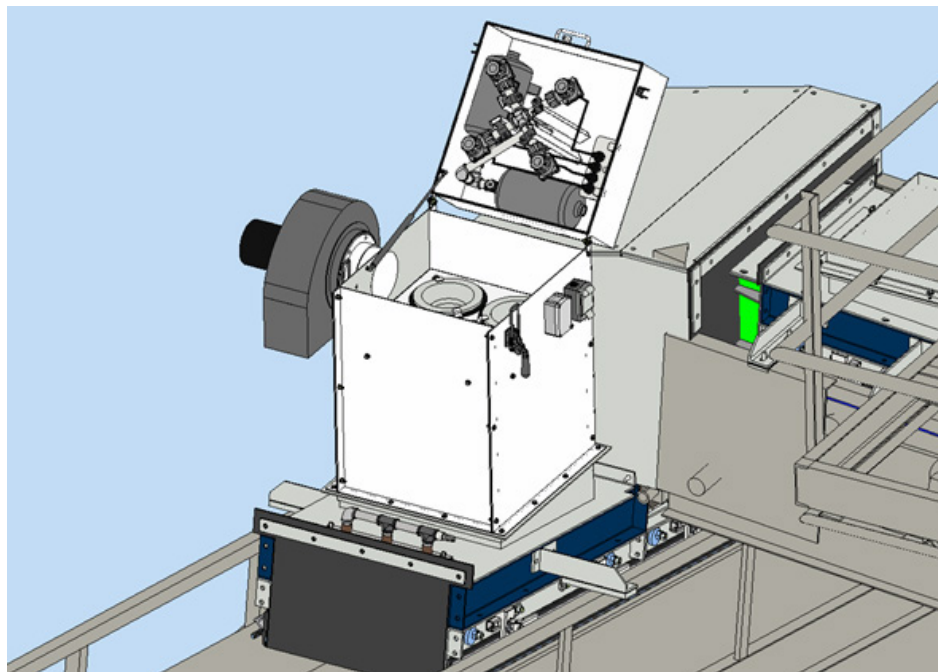

Figure 4
The Dustinator® Plus unit can now be set in place and will be secured using (12) 5/16" X 1" long hex head bolts. Secure the Dustinator® Plus and apply clear silicone around the mounting flange edges. The Dustinator® Plus fully mounted on the MaxZone Safe+™ system is shown in Figure 4.
Figure 4 illustrates mounting the Dustinator® Plus and Blower Motor to the MaxZone® system.